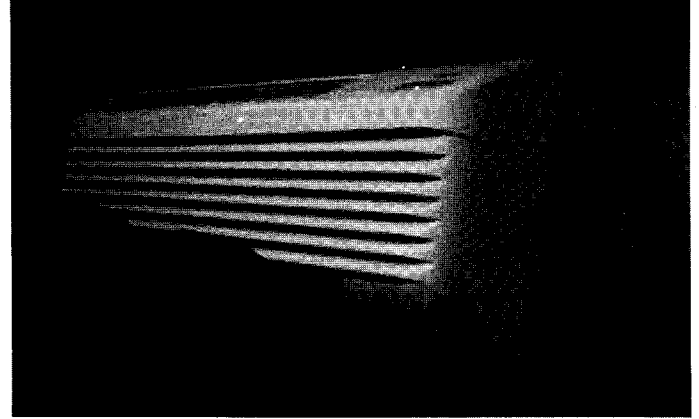

Figure 1
2. Remove the front cover by grasping the front corners and pulling forward until front unlocks from side clips and then lift straight up. (See Figure 1.)